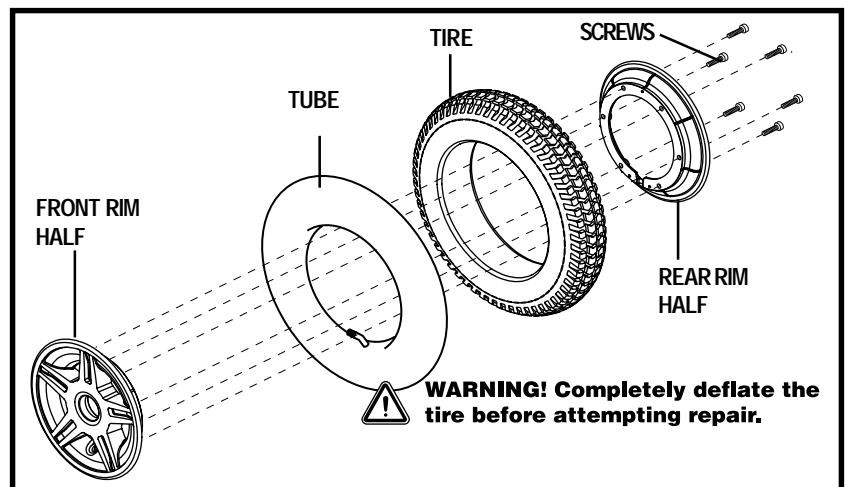

Figure 28. Jazzy 600 Drive Wheel
6. Remove the screws from the rim assembly and separate the front and rear rim. See figure 28.